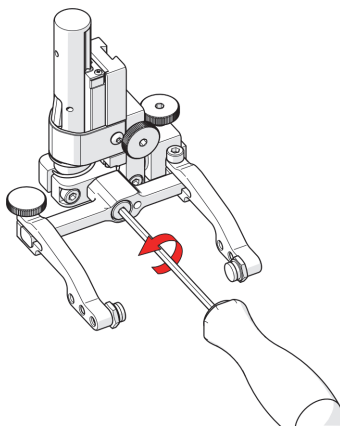

Figure 2-66 Unscrew yoke pivot screw
2. Using the supplied 3 mm hex driver, unscrew the yoke pivot screw and remove the yoke (see Figure 2-66 on page 101).